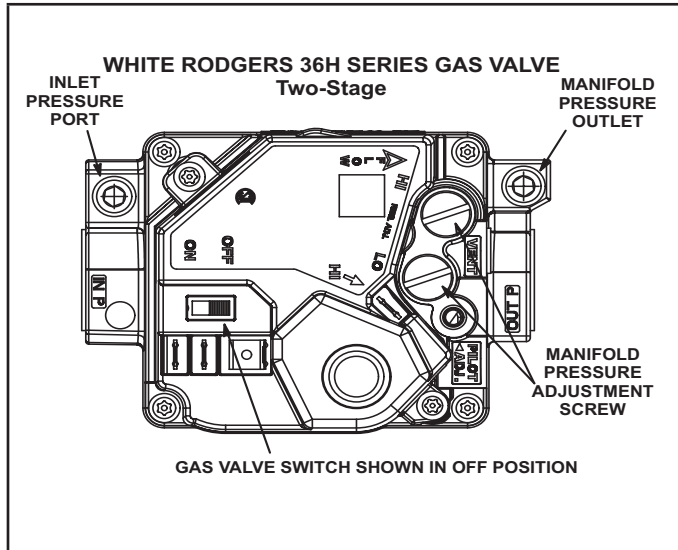
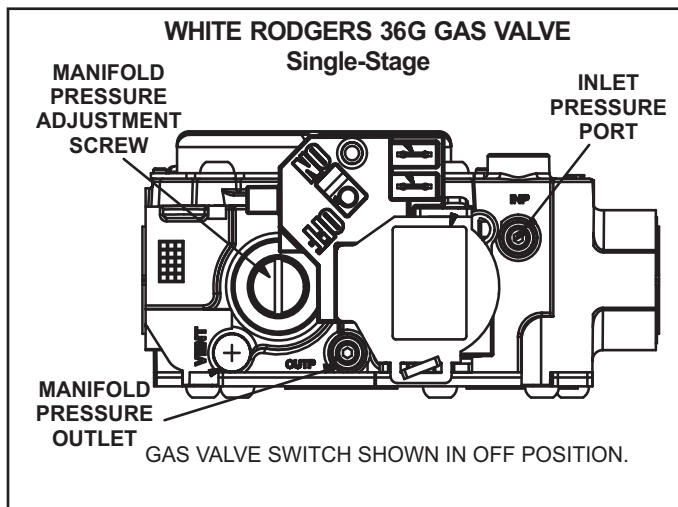

FIGURE 15
FIGURE 16
OPERATION OF WHITE RODGERS 36H SERIES VALVE (FIGURE 15) AND WHITE RODGERS 36G SERIES GAS VALVE (FIGURE 16)
For White Rodgers 36G valve (Figure 16), an inlet post located on the gas valve provides access to the supply pressure. Open the inlet port by backing out the 3/32" hex screw one turn. Connect a piece of tubing over the inlet post and route to a measuring device to measure supply pressure.
For White Rodgers 36H valve (Figure 15), supply pressure is accessed by removing 1/8" hex screw. Remove the 1/8" hex screw and install a 1/8" fitting with hose barb. Connect tubing from the barbed fitting and route to measuring device to measure supply pressure.
For White Rodgers 36G valves (Figure 16), turn the manifold 3/32" hex screw one revolution back into the gas valve.
For White Rodgers 36H valves (Figure 15), remove manifold barbed fitting and reinstall the 1/8" hex screw.
For White Rodgers 36G valves (Figure 16) manifold pressure, back out the 3/32" hex screw one turn, connect a piece of 5/16" tubing and connect to the "+" side of the measuring device.
For White Rodgers 36H valves (Figure 15) manifold pressure, remove the 1/8" hex screw, install 1/8" fitting with hose barb, connect hose from barb to "+" side of measuring device.
- 5 - If necessary, make adjustments. Figure 15 and 16 show adjustment screw(s) locations.
For White Rodgers 36H valves (Figure 15), remove 1/8" fitting with hose barb and reinstall 1/8" hex screw.